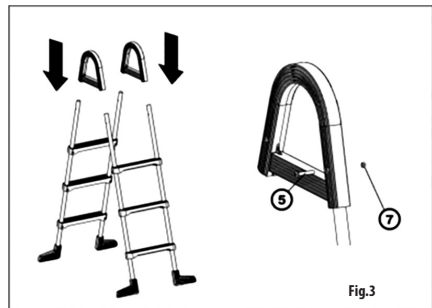

Fig.3
Slide the assembled ladders into the arcs (2) (Fig. 3) and secure them with appropriate screws (5) taking care of their proper orientation (screw heads shall face outwards of the treads).